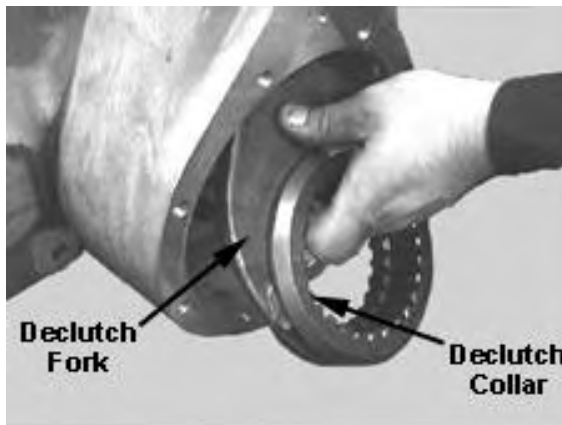

Fig. 76
33. Place the front declutch shift fork and collar into housing. See Fig. 76.